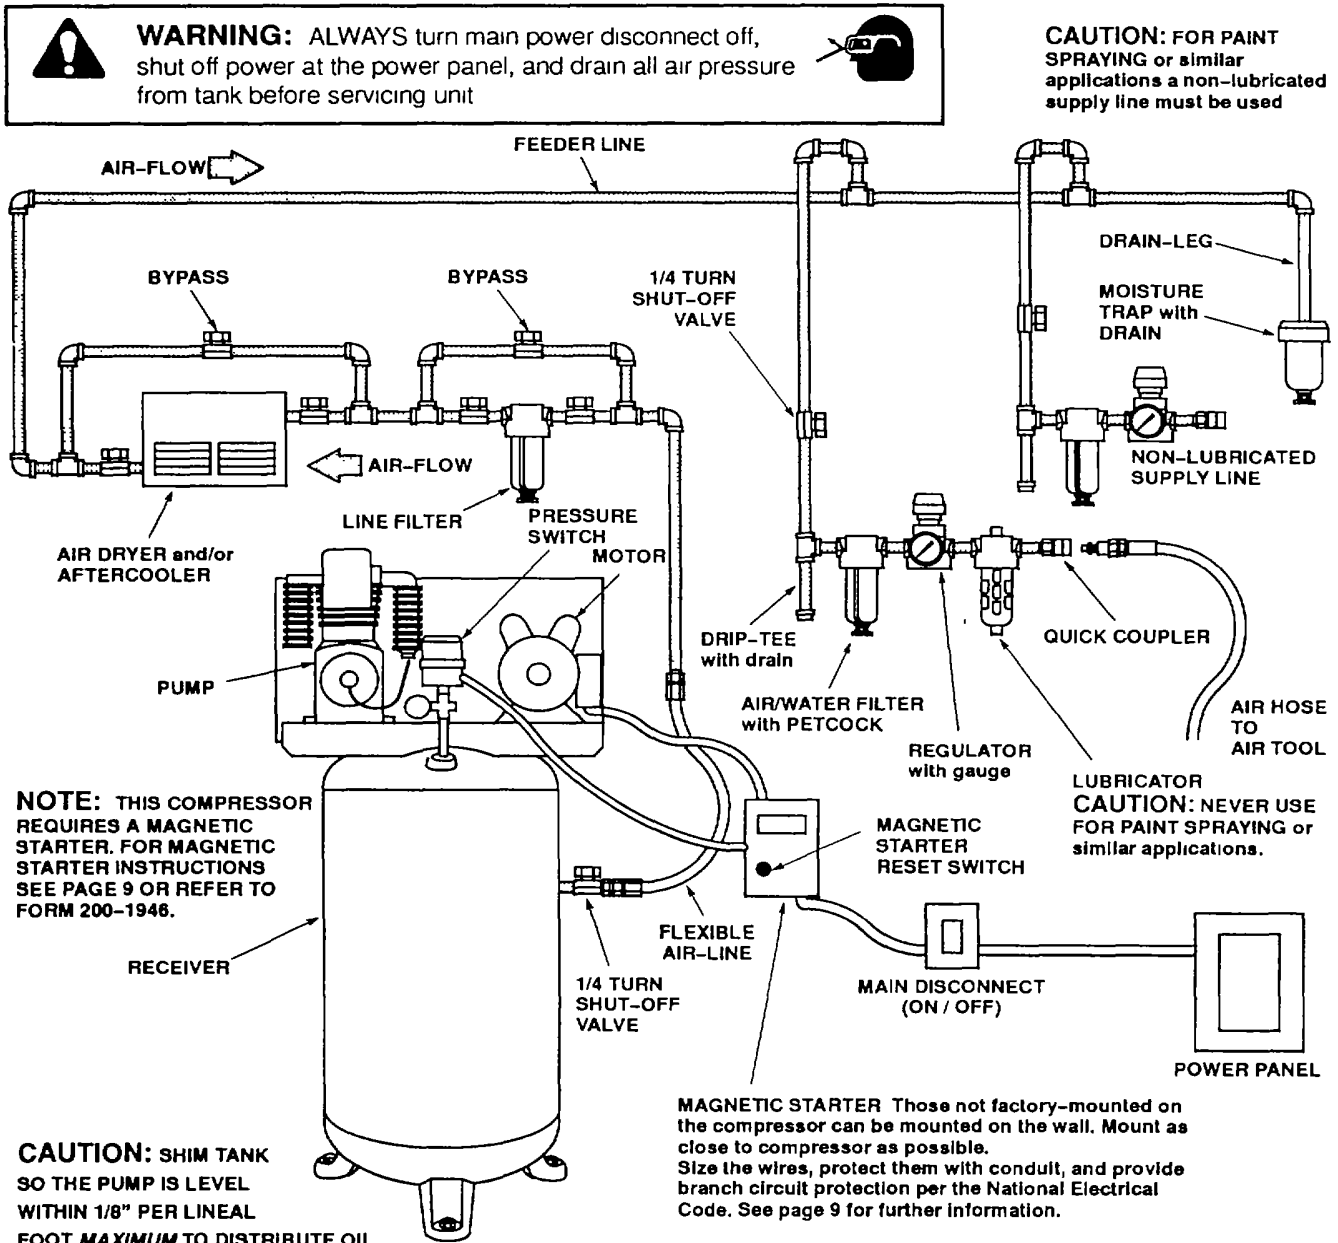

Figure 2. Typical Installation Drawing
Fig 2 illustrates a typical installation of an electric two-stage air compressor.
Two types of aftercoolers are available. The type shown in Fig 2 is installed directly in the air line. It both cools and dries the air.
As the air cools, moisture will condense in the lines. This moisture must be removed before it reaches the tool. To remove this moisture, run the main air line downhill to a trap and drain, as specified in Fig 2. Air/water filters should also be installed in the positions shown.
Install shut-off valves in each drop line, to isolate the tool and its accessories for servicing. You can also install a bypass line around an accessory, as shown in Fig 2.
- f. **CAUTION:** To prevent damage to tank and compressor, the tank must be shimmed so the pump is level within 1/8" per lineal foot MAX to distribute oil properly. Fasten to floor and NEVER force tank feet to floor without shims when tightening. We also recommend the use of vibration pads (094-0021) under tank feet. See Fig 2.
Install a main disconnect in the power line to the compressor, near the compressor's location. It is operated manually, but when it is in the ON position, the compressor will start up or shut down automatically on air demand. ALWAYS set this switch to OFF when the compressor is not being used. See Fig 2 on page 6.
If the motor shuts down because of overload, wait 10-15 minutes so the motor can cool down, then press (NEVER force) the reset switch on the front of the magnetic starter to restart the motor. See Fig 2 on page 6.
- 2 Make sure the main power disconnect is shut OFF See Fig 2 on page 6.